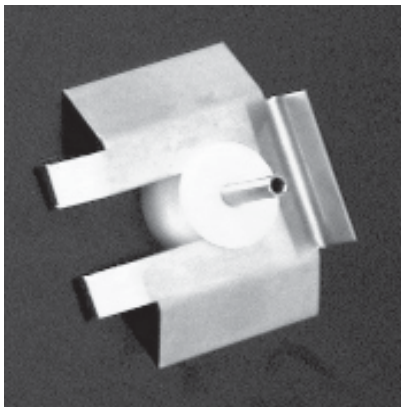

Figure 8. Retainer Clip
- J. Install hose adaptor onto hopper cover and secure with retainer clip (SO318 only). Figure 8.